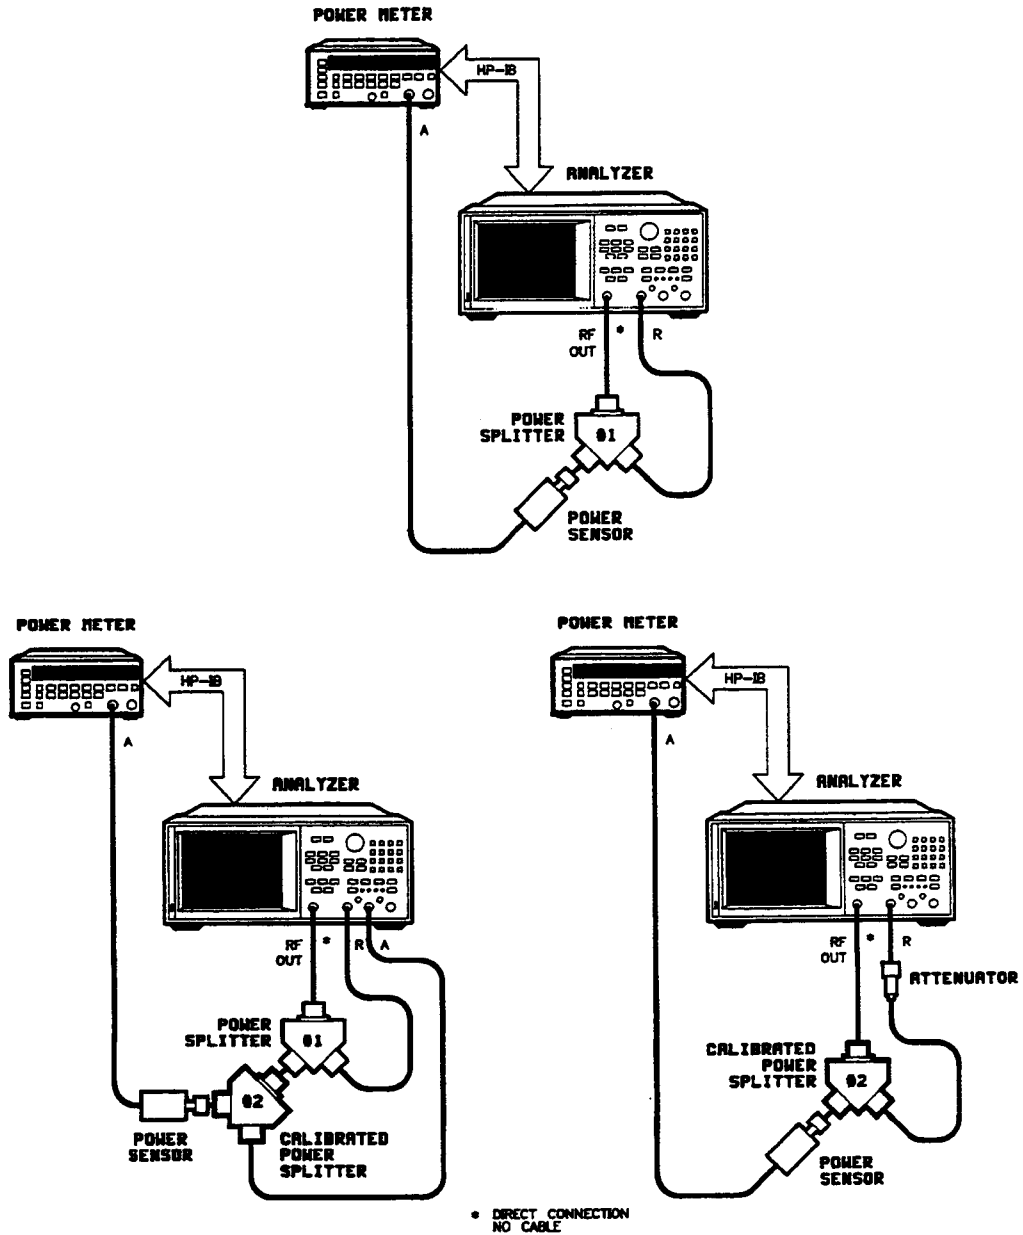

Figure 23. Source Adjustment Setups
6. Connect the equipment as indicated in Figure 23 (A), using splitter #1.
9. Reconfigure the equipment as shown in Figure 23 (B). Repeat the measurements at the same frequencies and note the power readings in the second column, above.
13. Press **[EXECUTE TEST]** and **[YES]** at the prompt to alter the correction constants. Connect the equipment as shown in Figure 23 (C) using splitter #2 when prompted.